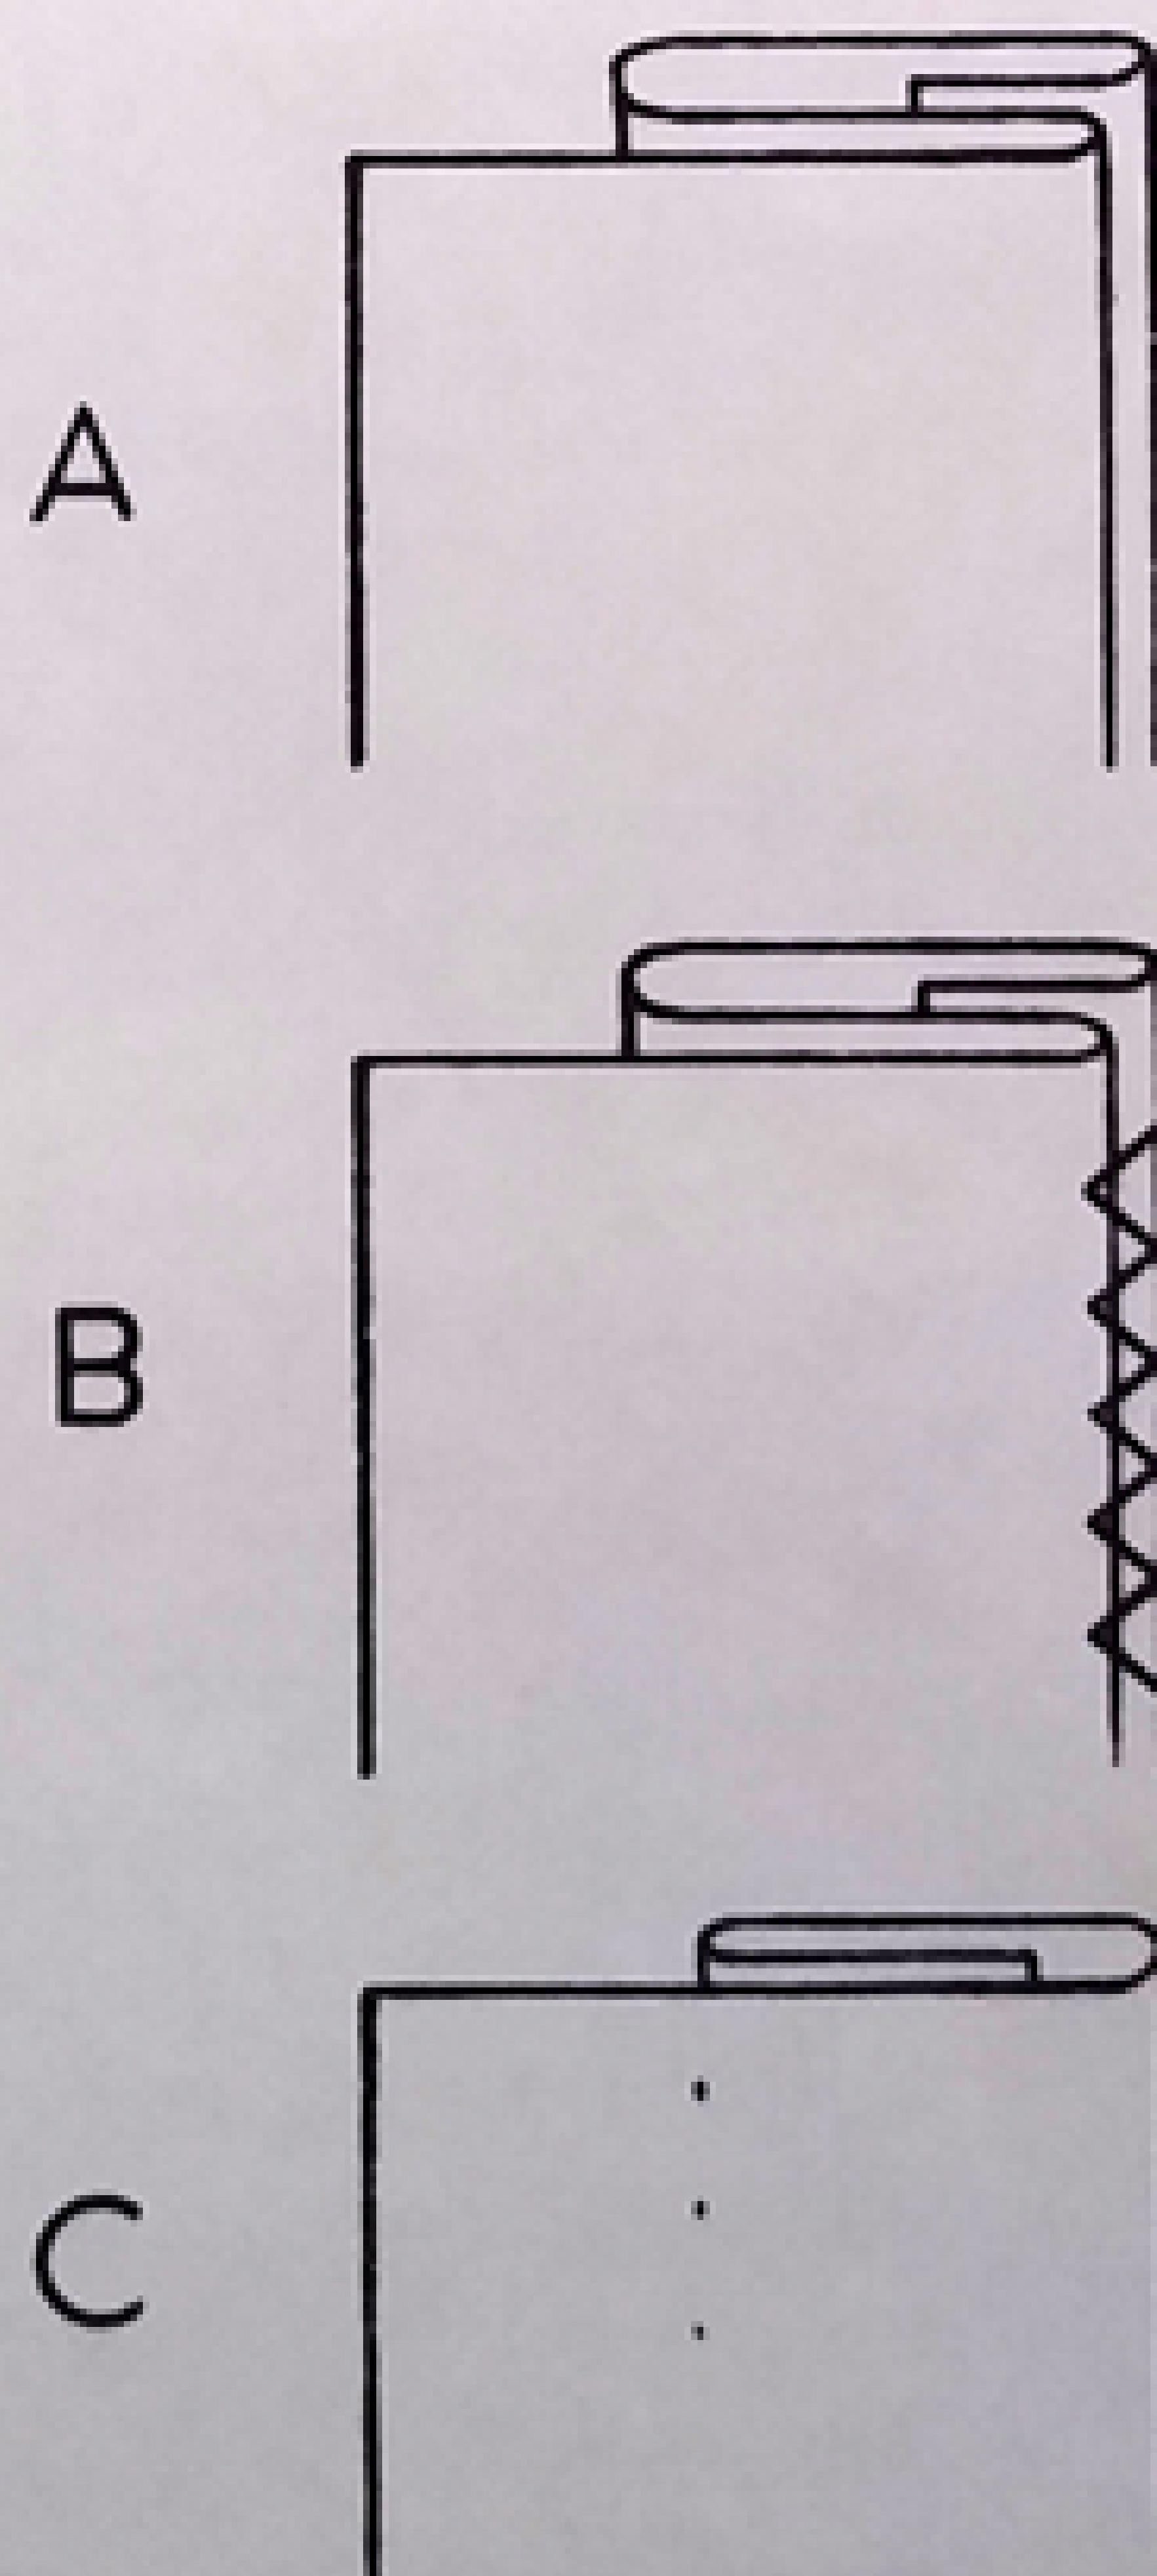

Fig. 36
7. Fold the material to the size of hem desired, with a $\frac{1}{16}$ " overlap on the bottom fold, as shown in Fig. 36 A.
8. Make the stitch as shown in Fig. 36 B.
9. After stitching is finished, unfold the material as shown in Fig. 36 C and you will have the Blind Stitch.